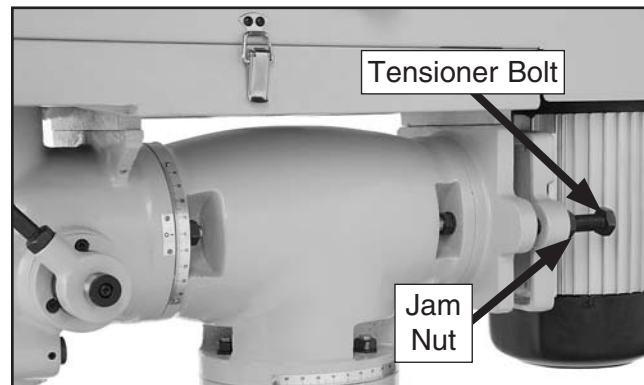

Figure 32. Tensioner bolt and jam nut location.
2. Release motor pulley tension by loosening the jam nut and then the tensioner bolt (see **Figure 32**).